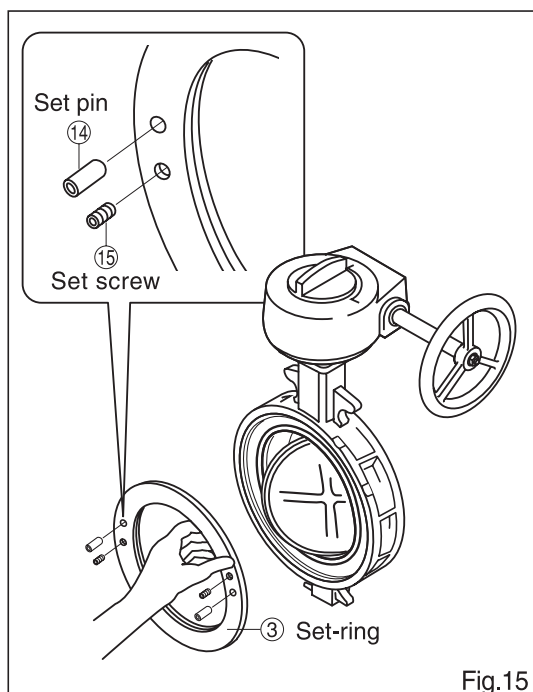

Fig.15
1. Tighten up the Set screw^⑮ of the set-ring^③ by wrench, and then pull out the set pin^⑭ and set-ring^③ (Fig.15)